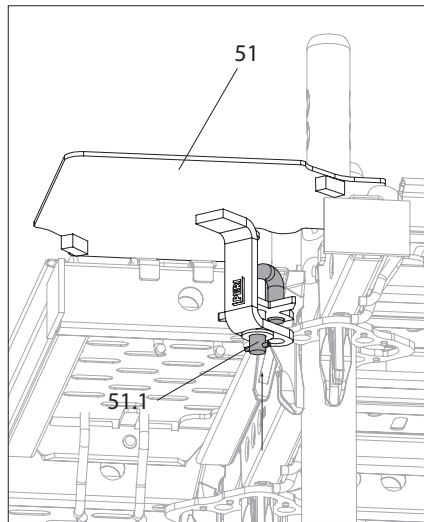

Fig. A7.06a
3. Place the Inside Corner Plate EDP (51) on the adjacent console bracket decks.
4. Push the bolts of the Inside Corner Plate EDP (51.1) up. (Fig. A7.06a)